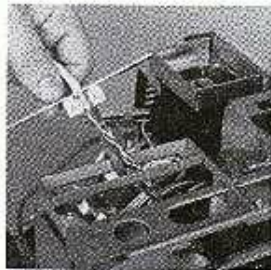

Figure 3-11
- b. Thread the host connector cable through the accessory access opening as shown in Figure 3-11.